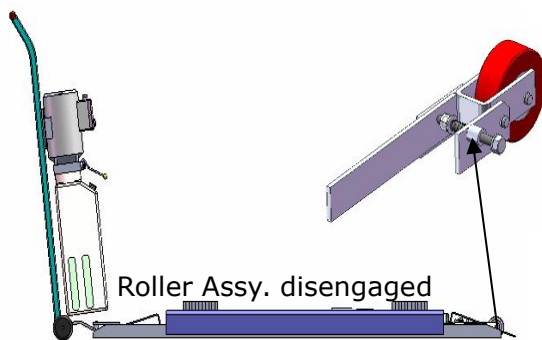

**Fig.15**
2. The roller must be disengage when lifting vehicle (**See Fig.17**). To raise and lock the lift: Press the button up till the lift is raised to the required height and the locks are in engaged (**See Fig.15**), then push release handle of the power unit, the lift would be locked.